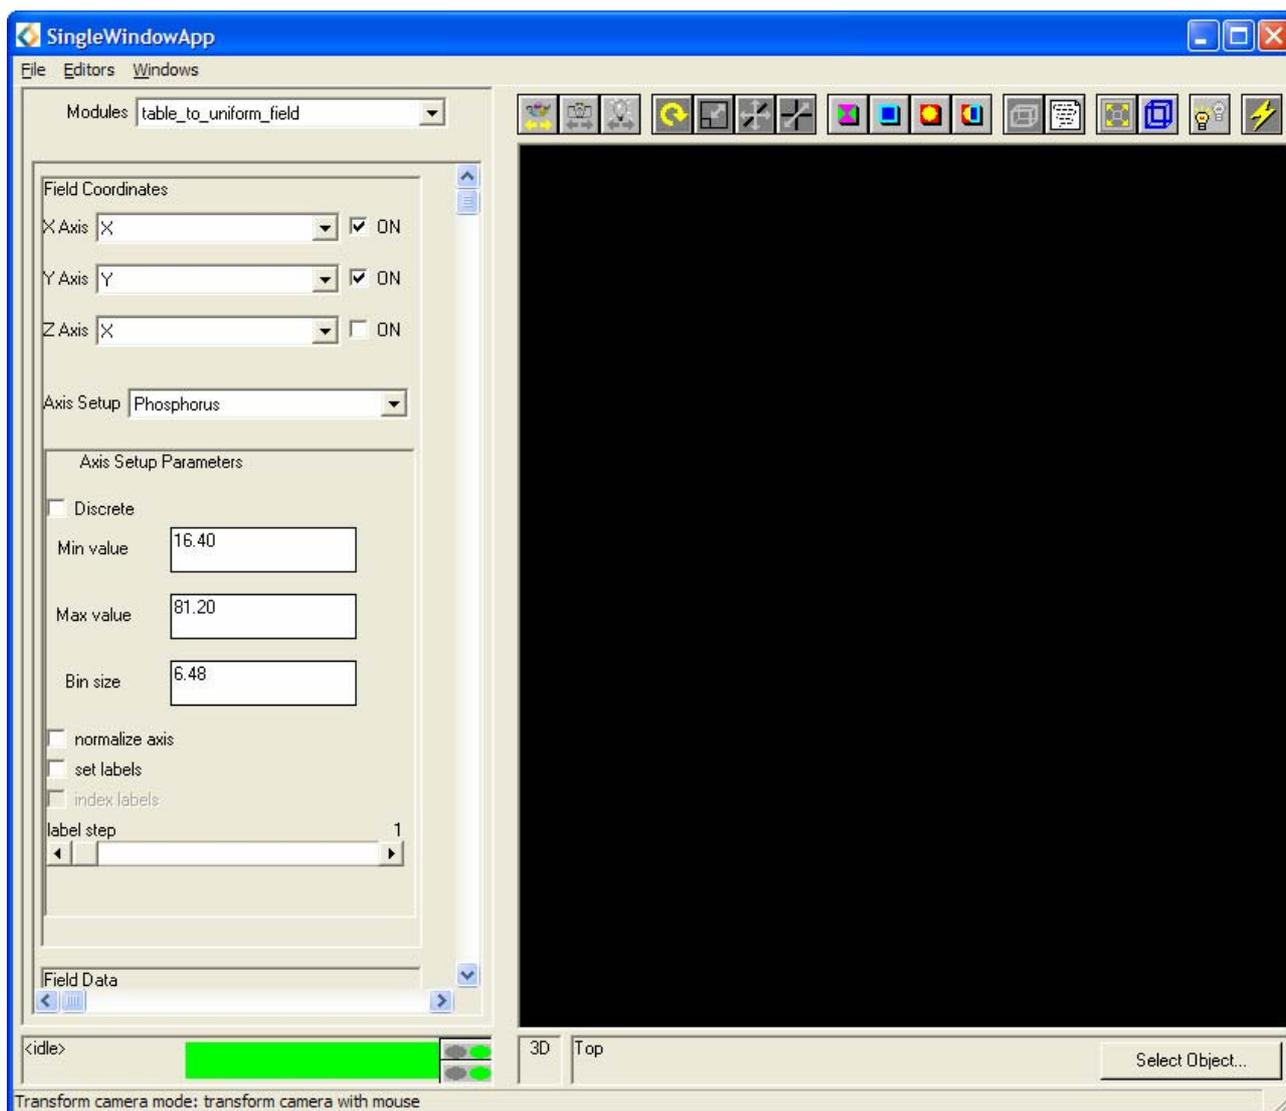

Figure C.33: `table_to_uniform_field` Editor Panel for **Phosphorus** Component
- Ensure the **Axis Setup Parameters** for each data component are not set as **Discrete**, **normalize axis** or **set labels**. Using the **Axis Setup** dropdown list select the required component and set its properties using the widgets in the indented panel below the **Axis Setup** drop down list (Figure C.33).